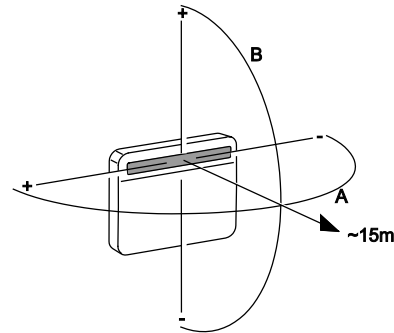
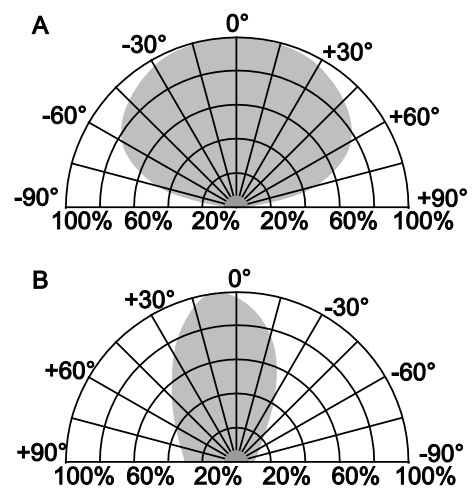

Fig. 1: Coverage
Fig. 2: Detection range
The memory touch-type controller 6550 U-10 ... can be used as a component within the IR remote control system. In this case, the memory touch-type controller must be combined with the IR remote control element 6066- ... When installing with remote control the installation site should lie within the IR receiving range - see Fig. 1 and Fig. 2. Please note that the IR receiving range may vary due to extraneous light (e.g., sunlight, illumination).
2. Observe the "IR receiving range" when addressing - Fig. 1 and Fig. 2.